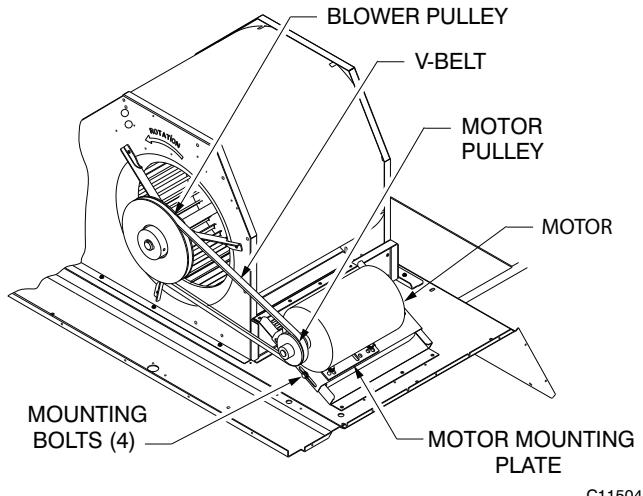

Fig. 5 - Belt Drive Motor Mounting
The supply fan system consists of a forward-curved centrifugal blower wheel on a solid shaft with two concentric type bearings, one on each side of the blower housing. A fixed-pitch driven pulley is attached to the fan shaft and an adjustable-pitch driver pulley is on the motor. The pulleys are connected using a "V" type belt. See Fig. 5.
2. Loosen belt by loosening fan motor mounting nuts. See Fig. 5.